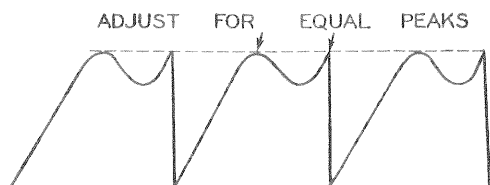

FIG. 3
- Adjust the horizontal waveform slug (B2) until the broad and narrow peaks are of equal amplitude as shown in Fig. 3.